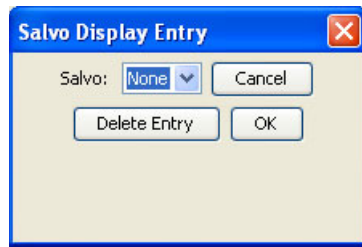

Figure 11-23. Salvo Display Entry Dialog Box
- b Click a button in the control panel image to select a destination number. The ‘Salvo Display Entry’ dialog box appears, as shown in Figure 11-23. The text is a toggle.